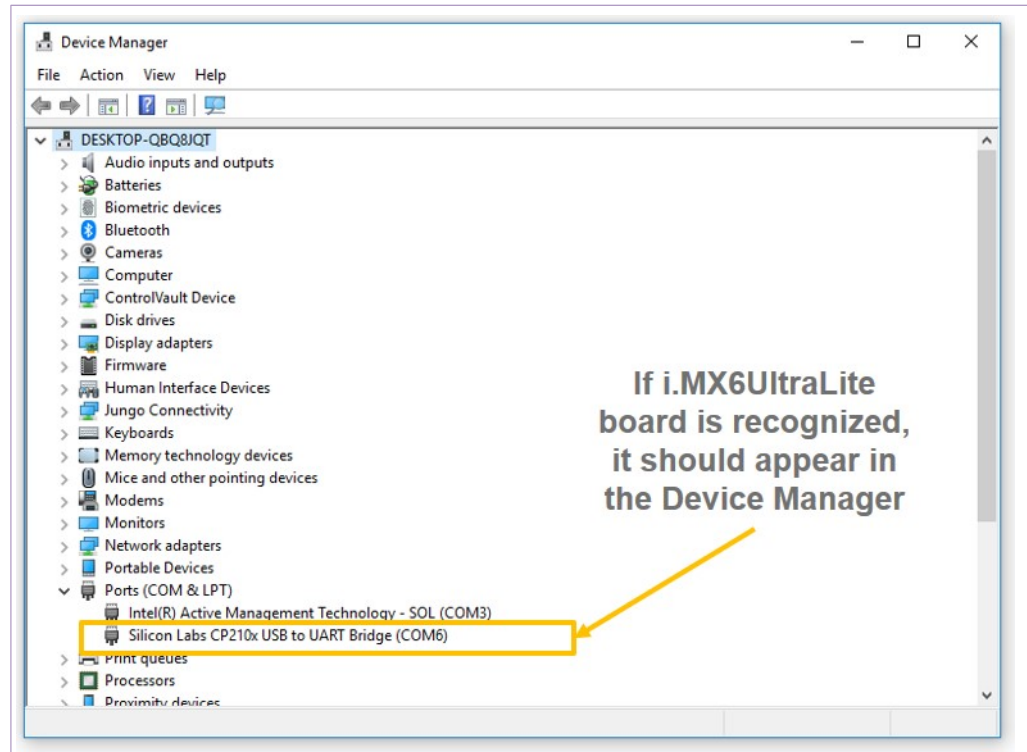

Figure 5. Check i.MX6UltraLite board is recognized in Device Manager
4. Go to your Device Manager, and check that your board is recognized and assigned to a port number (COMxx). Write down the assigned port number (COMxx) as it is needed in the next steps. Your Device Manager should look like Figure 5